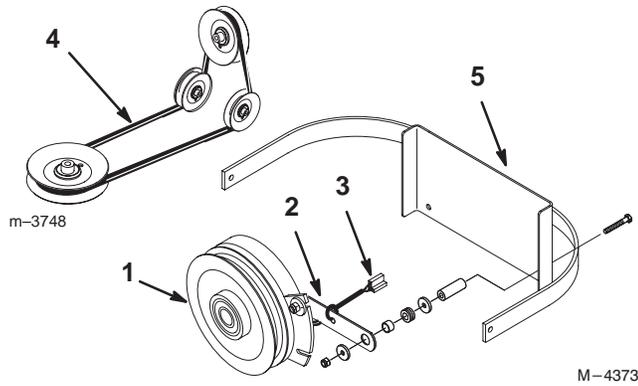

Figure 49
2. Remove the clutch retaining strap from machine frame and unplug clutch terminal from wire harness (Fig. 49).
7. Install clutch retaining strap and plug clutch terminal into main wire harness (Fig. 49).